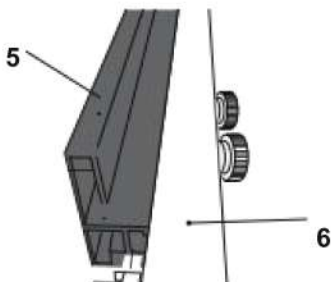

fig. 3
- > The short fence (5) can also be attached to the left side of the parallel fence (6). (fig. 3)